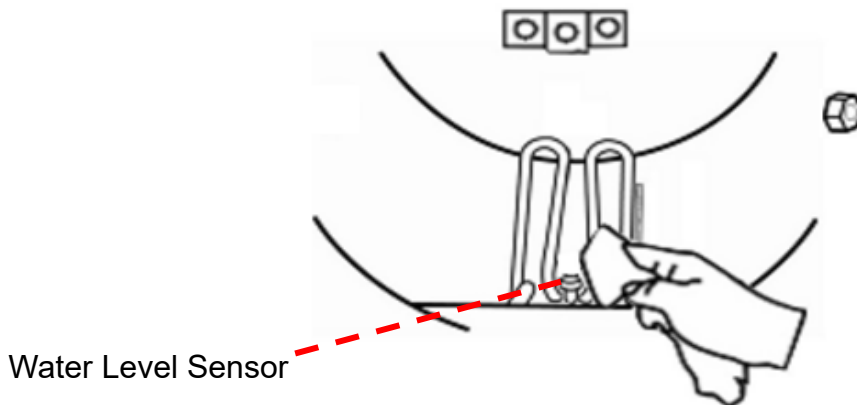

Figure 89
- Use the non-corrosive cleaner and stiff bristled brush or sponge to clean the water level sensor at the rear of the chamber as Figure 89.